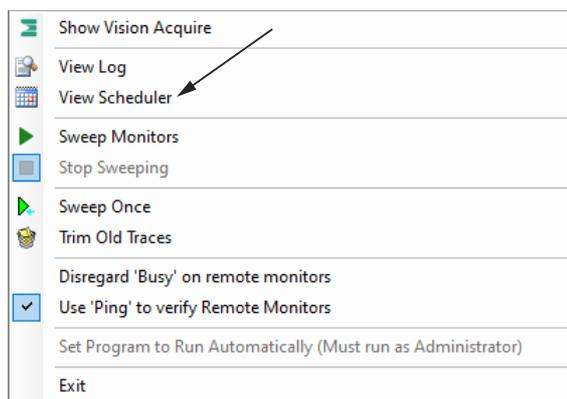
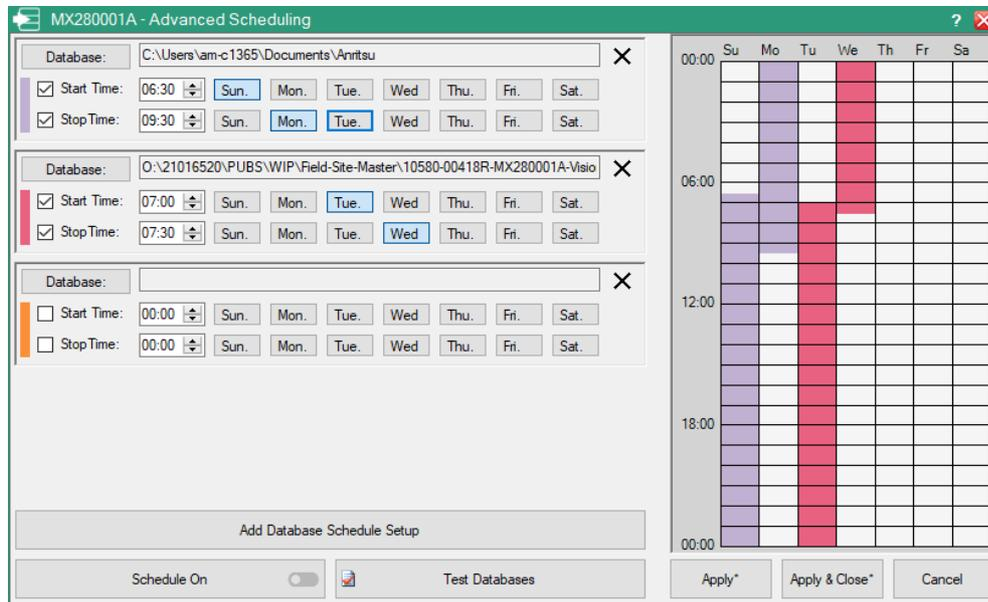

Figure 4-8. View Scheduler
Figure 4-9. Advanced Scheduling Window
The Scheduler provides a weekly scheduling format to run up to four databases with different sweep parameters and Spectrum Analyzers to analyze the signal span at different times in the day or week. The scheduler menu can be opened by right-clicking the Vision Acquire icon in the system tray and locate View Scheduler as shown in Figure 4-8, or pressing the “Scheduler” button in the Trace Acquire. The start time and stop time is set by the user for each database as shown in Figure 4-9 on page 4-13.
2. Set the time for data collection to begin using Start/Stop Time. You can choose the start and stop days which will displayed as color coded boxes as shown in Figure 4-9.
3. Select a start and stop day of the week during which the data collection should take place. Notice the color-coded calendar on the right that showing the set start/stop time and day of the week. Note that an asterisk symbol is displayed both on Apply and Apply & Close buttons as shown in Figure 4-9, to indicate that the changes are not applied yet. Once the Apply button is clicked the asterisk symbol disappears indicating the changes have been applied. Click Cancel to cancel the selections otherwise click either Apply or Apply and Close.